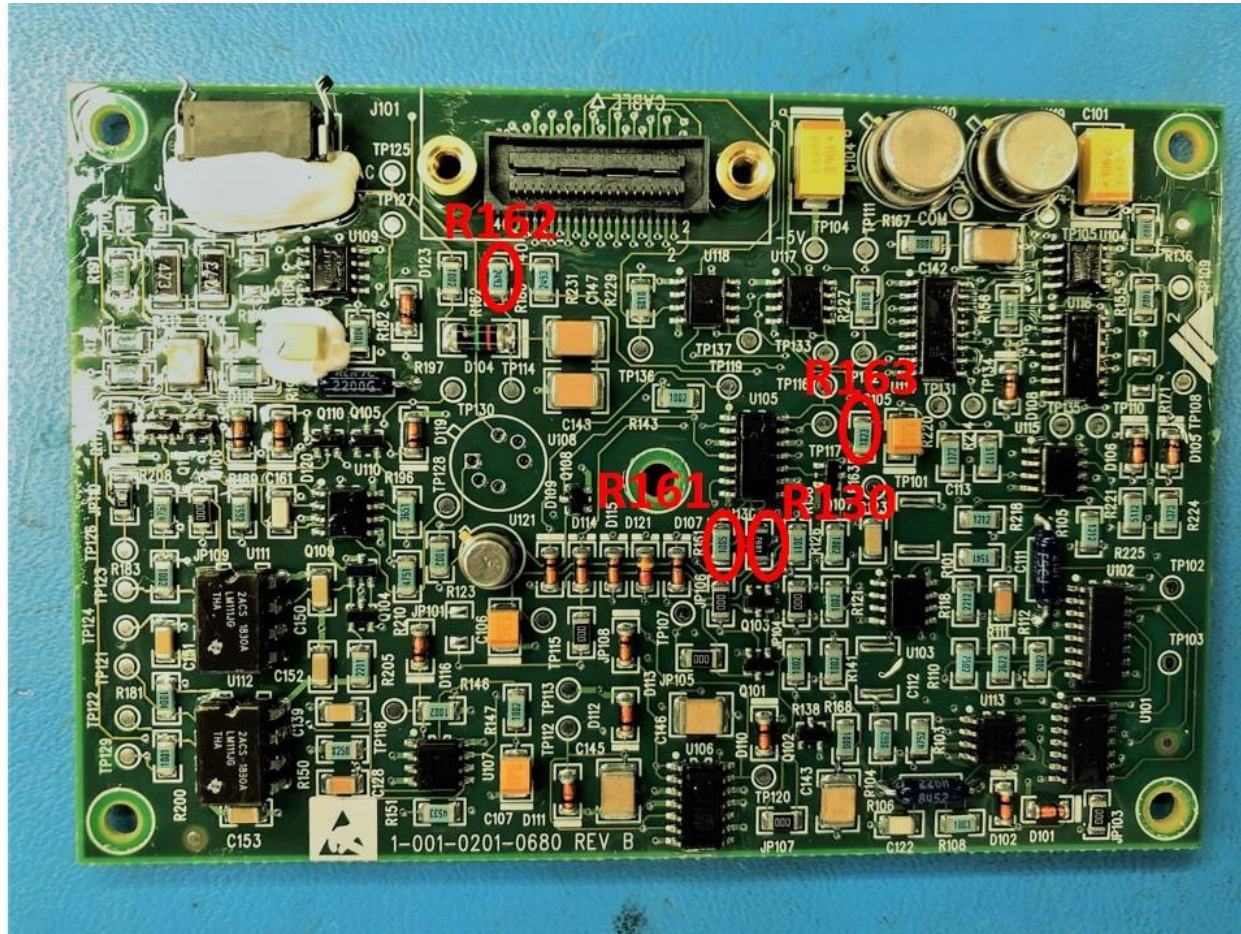

Figure 13 – Inverter board removed
17. Locate resistors R130, R131 R162 and R163 on the inverter board. (Figure 13). (IPL Figure 26 items 225, 210 and 235).